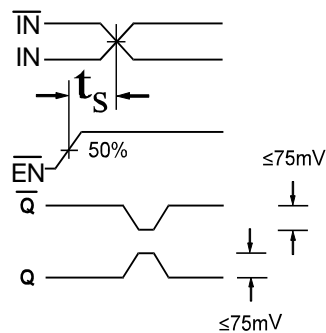

Figure 1. Setup Time
- The setup time is the minimum time that EN must be asserted prior to the next transition of IN/IN to prevent an output response greater than $\pm 75\text{mV}$ to that IN/IN transition (see Figure 1).